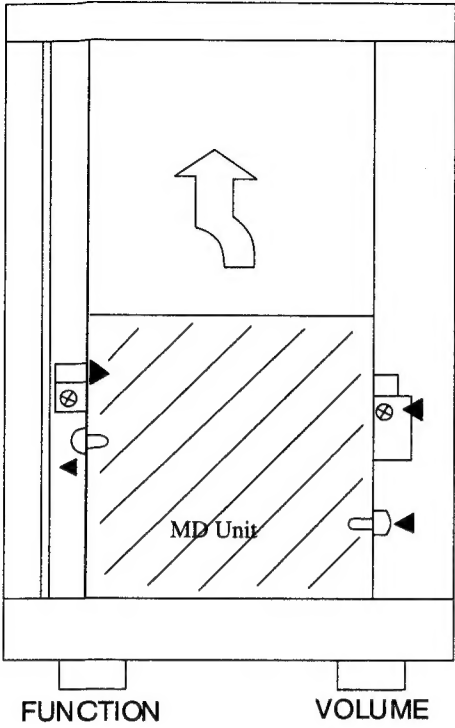

Fig. 1
- 1) Remove four screws (VT3-5) as indicated by ▲. (See Fig. 1)